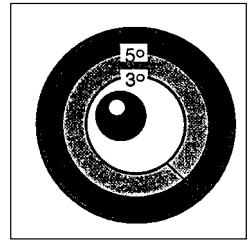
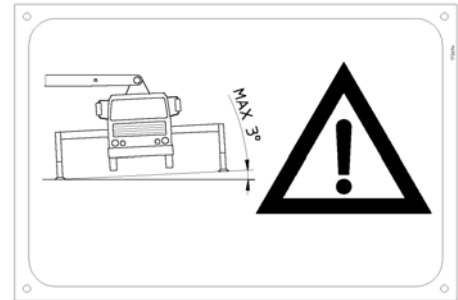

FIG. 39
FIG. 40
05.1.5 - Set up the machine observing the levels near the distributors for stabilizer operation (fig. 39). Maximum allowed inclination is 3°. Greater inclinations overload the distributor boom swivel motion, the stabilizers and could jeopardize machine stability (fig. 40).